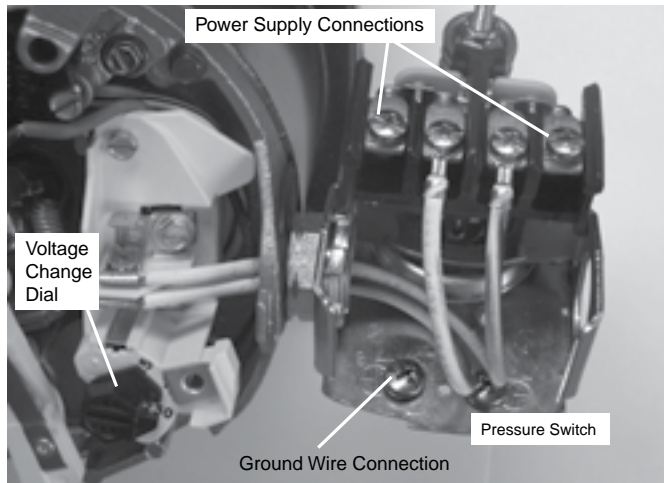

Figure 6: Voltage set to 230 volts, Dial Type
3. Attach the incoming power leads to the two outer screws on the pressure switch as shown in Figure 6.
4. Attach the ground wire to the grounding connections as shown in Figure 6.
1. Connect the ground wire first as shown in Figure 6. The ground wire must be a solid copper wire at least as large as the power supply wires.
4. Connect the power supply wires to the pressure switch as shown in Figure 6.